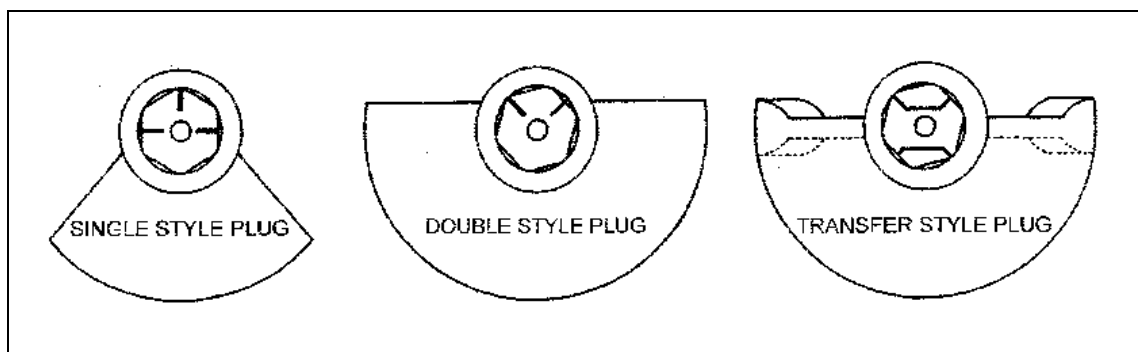

Figure 3 – Plug Stem Stampings
8. Note the stampings on the top of the valve plug stem. These stampings correspond with the plug face as shown in Figure 3. It is important that the plug position be noted to ensure it is in the correct position during actuator installation.